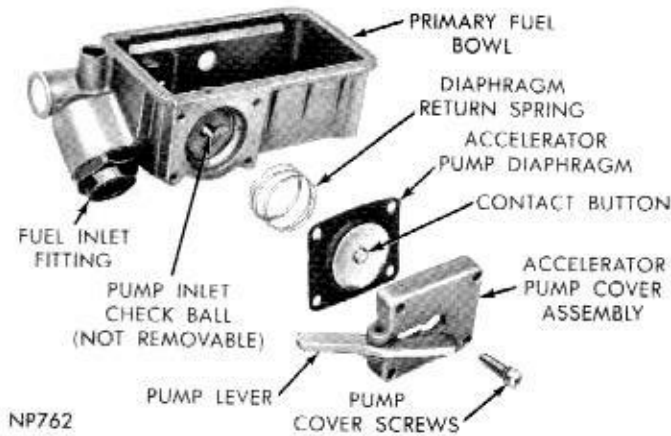

Fig. 10—Accelerating Pump (Exploded View)
(1) Install accelerator pump spring in position in fuel bowl, followed by diaphragm and pump cover. (When installing diaphragm, be sure contact button is toward pump lever in cover.) (Fig. 10).
(2) Place cover over diaphragm (with lever on fuel inlet fitting side) (Fig. 10). Install attaching screws and tighten securely.